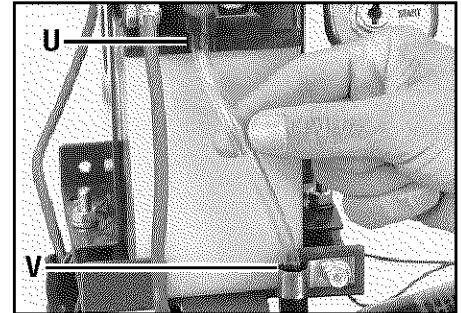

Figure 2-19: Install vent tube.
5. Install one end of the clear plastic vent tube over the vent fitting (U, Figure 2-19) on the battery. Insert the other end down into the vent tube shield (V).